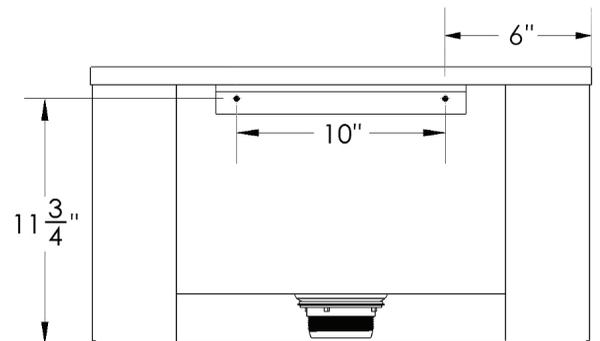

Figure 1
1. The included mounting bracket goes on the wall where the back of the mop sink sits. (See Figure 1).